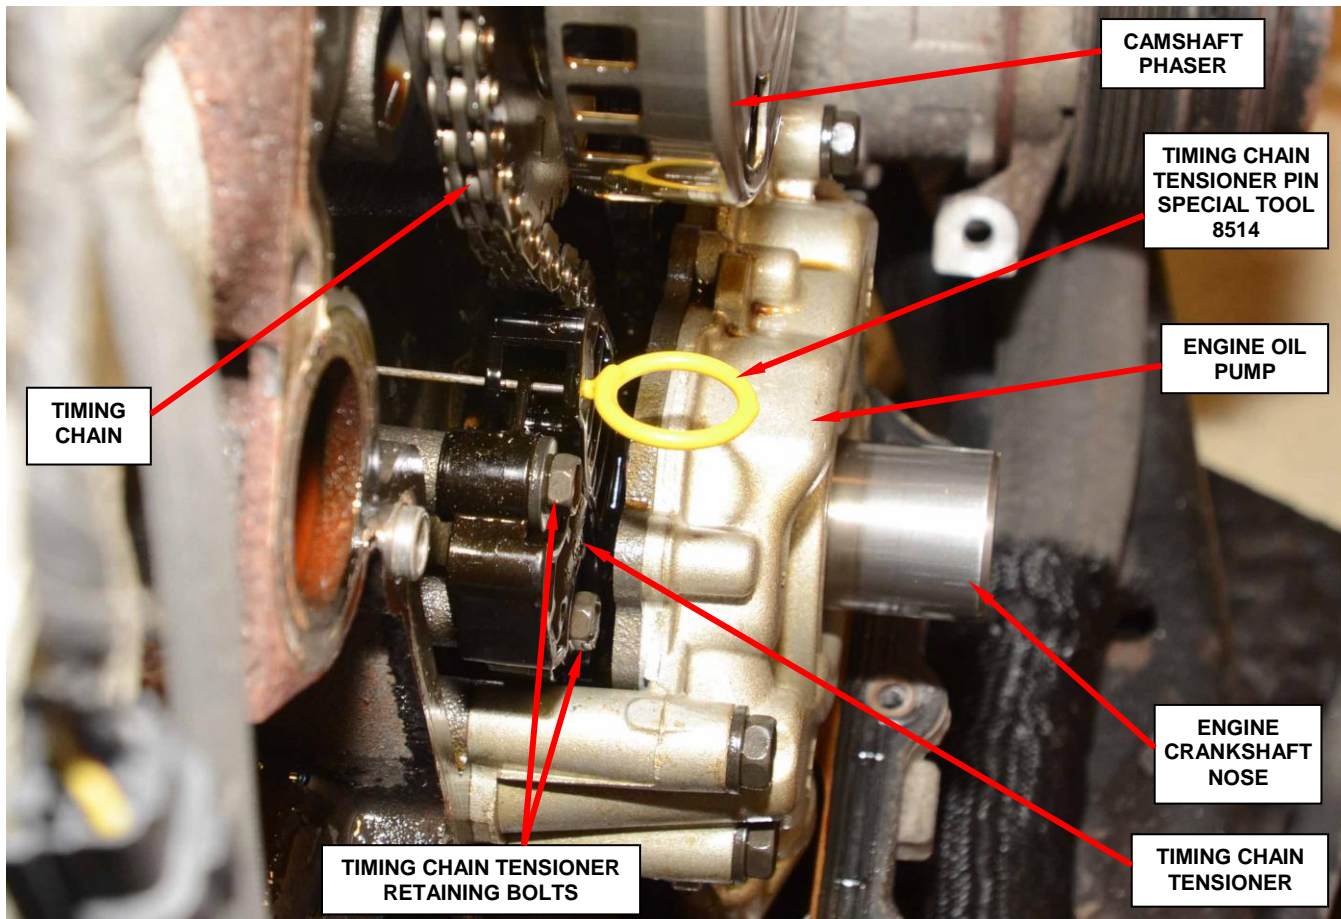

Figure 8 – Special Pin Tool 8514
36. Push the engine timing chain tensioner away from the timing chain and insert the timing chain tensioner pin tool (Special Tool 8514) to hold the timing chain tensioner way from the timing chain (Figure 8).
37. Remove and save the two engine timing chain tensioner retaining bolts (Figure 8).